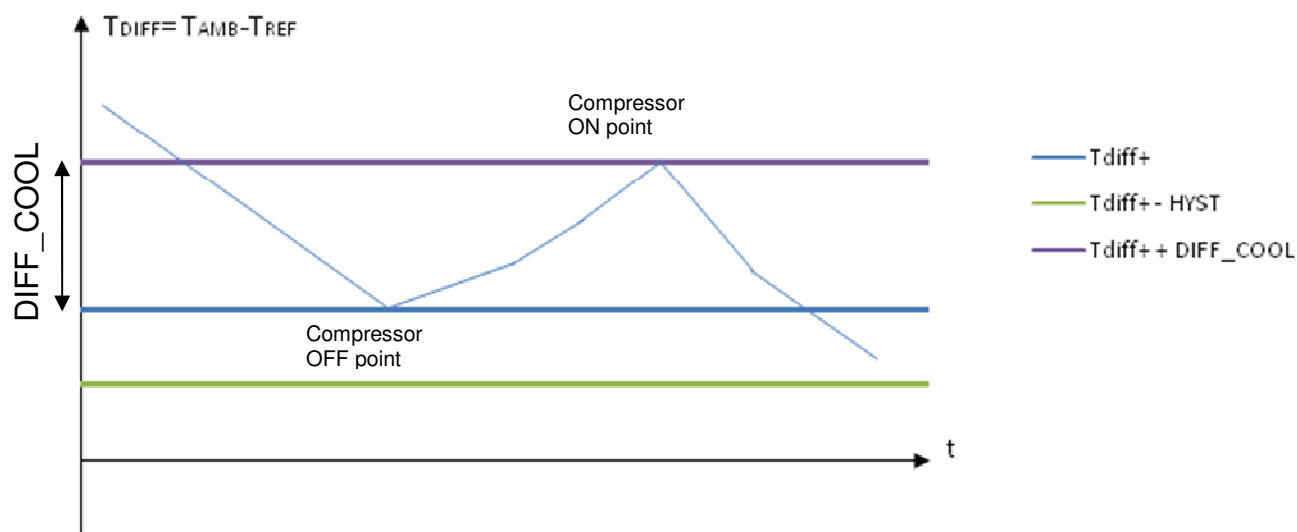

Fig. 8 First compressor regulation
- DIFF_COOL: wideness of the temperature difference band (straddling T_{DIFF+} , as shown in Fig. 8) in which no action is required. If the temperature difference reaches the value $T_{DIFF+} + DIFF_COOL$, the compressor is started.